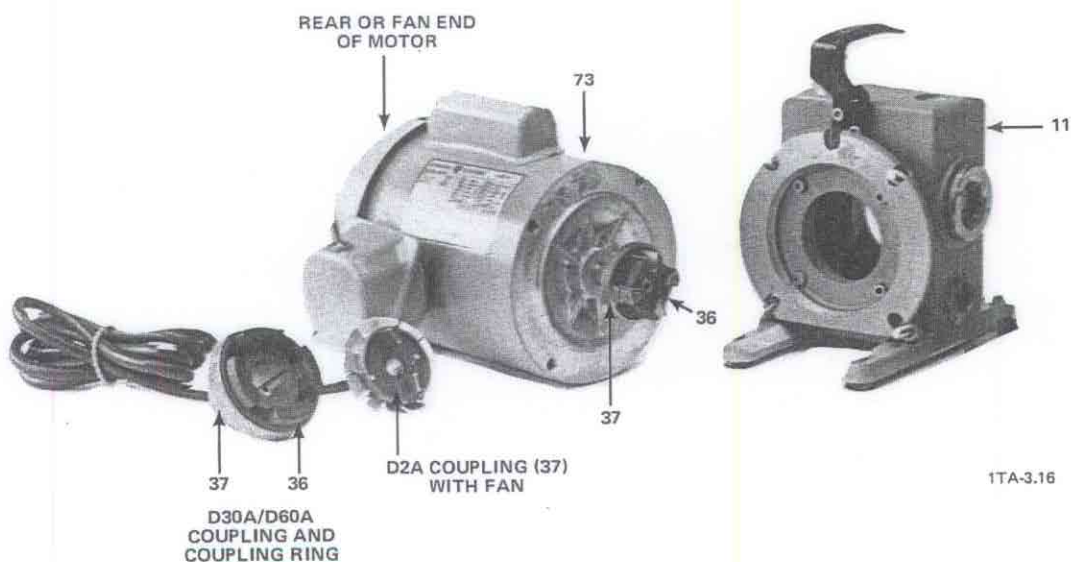

Figure 5-15. Coupling Housing and Motor (D2A Pump Model Shown)
- D-13** Using a U.S. standard wrench, unscrew and remove the four nuts and washers that attach the motor (73) to the coupling housing (11). Remove the motor from the coupling housing (see Figure 5-15).
- D-14** For the D2A, D4A, D8A, and D16A pump models only, pull the elastic element (36) off of the coupling (37) mounted on the motor shaft (see Figure 5-15).
E-7. Thoroughly clean the coupling housing (11), making certain that no dirt has accumulated in the crevices of the housing (see Figure 5-15).
- (b) Check if the fan on the rear end of the motor is rotating in the correct direction. Looking from the fan end of the motor, the fan and motor shaft should be rotating clockwise (see Figure 5-15).
- (1) If the pump has a new motor supplied by Leybold, a rotational lock bearing has been correctly installed at the factory to prevent the motor from rotating in the wrong direction. In this case, check the wiring of the motor as follows:
- (b) Check if the fan on the rear end of the motor (see Figure 5-15) rotates.
- (2) If the motor was not supplied through Leybold or the pump has an old Leybold supplied motor, grab the motor shaft or motor fan and attempt to turn it clockwise and then counterclockwise; then proceed as follows: